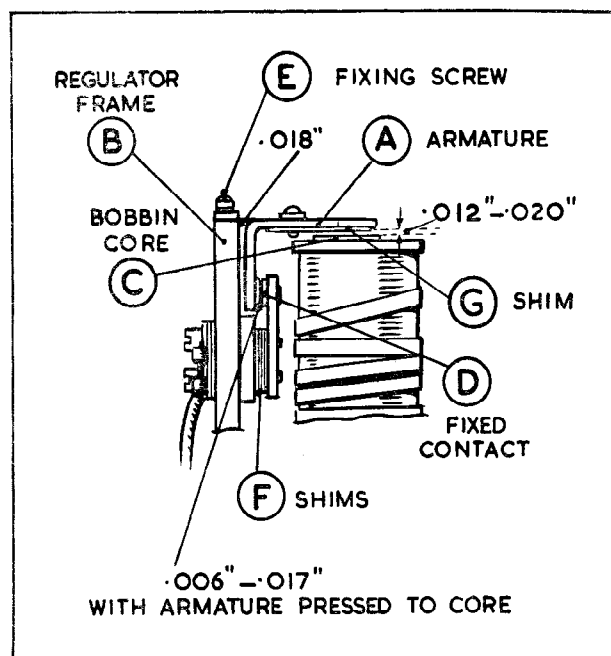

Fig. 6.
Slacken the two armature fixing screws (E) Fig. 6.